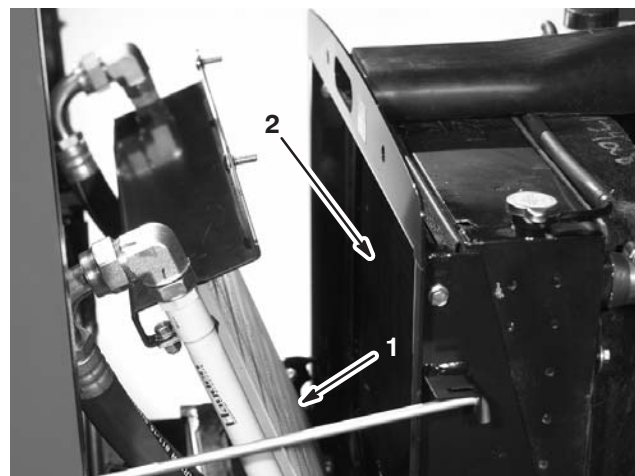

Figure 51
3. Pivot the oil cooler rearward. Clean both sides of the oil cooler and radiator area (Fig. 51) thoroughly with compressed air.